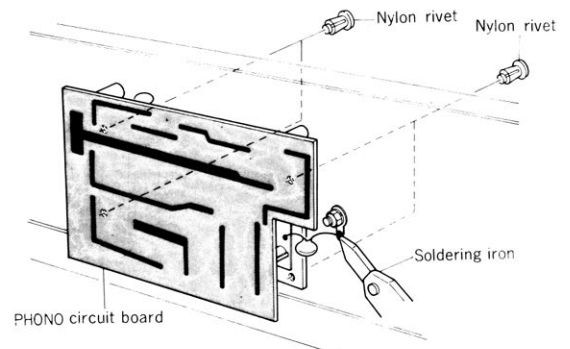

Fig. 8
- 2) Remove 4 nylon rivets. (Refer to Fig. 8)
- 3) Detach the ceramic capacitor with a soldering iron. (Refer to Fig. 8)